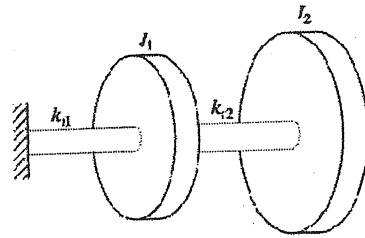

Fig. 4
- 8 (a) Determine the natural frequencies and normal modes of the torsional system shown in Figure 4 for $k_{t1} = k_t$, k_{t2} , $J_1 = J_0$ and $J_2 = 2J_0$